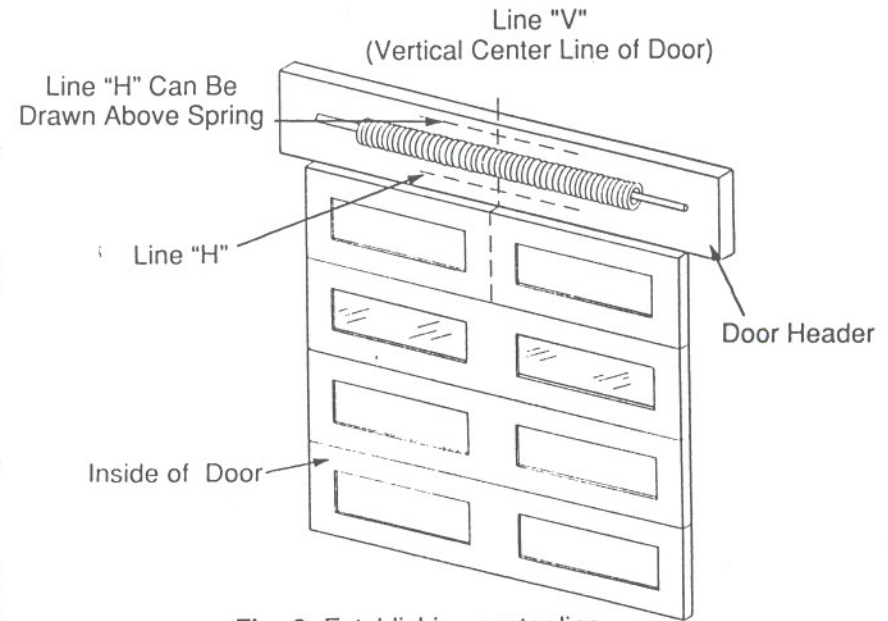

Fig. 2. Establishing center line
1 ESTABLISH CENTER LINE OF DOOR AND HEADER. (Fig. 2)
- Draw horizontal line "H" across line "V" at this point. (Fig. 2)